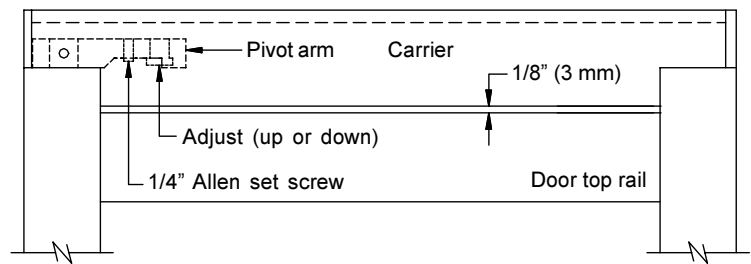

Figure 24. Door/Carrier Adjustment
7. Next, break open the door and panel. Slowly close the door and check the clearance between the top of the door and the bottom of the carrier. If the clearance is not 1/8" (3 mm), loosen the 1/4" (6 mm) Allen head set screw at the bottom of the carrier. Adjust the clearances as required by turning the large Allen head bolt. After setting the correct clearance, retighten the 1/4" (6 mm) Allen head set screw (**Figure 24**).